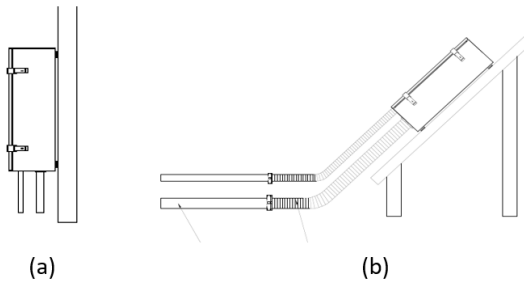

Figure 3-2 AC Combiner Mounting Options
(2) **Installation Method (see Figure 3-2):**